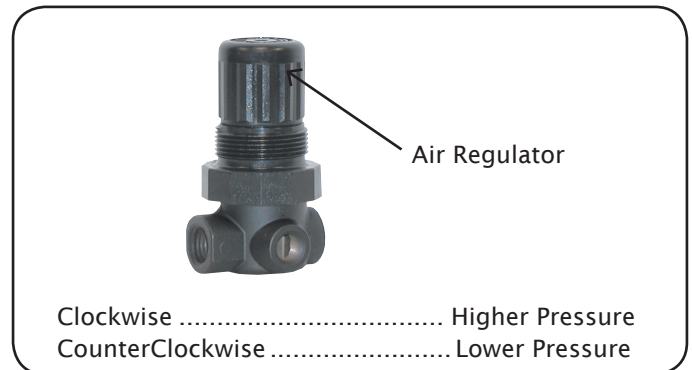

figure 5
3. Air pressure is set at factory. If regulation is needed, turn handle on air regulator clockwise for more pressure, and counterclockwise for less pressure. **(Fig. 5)**